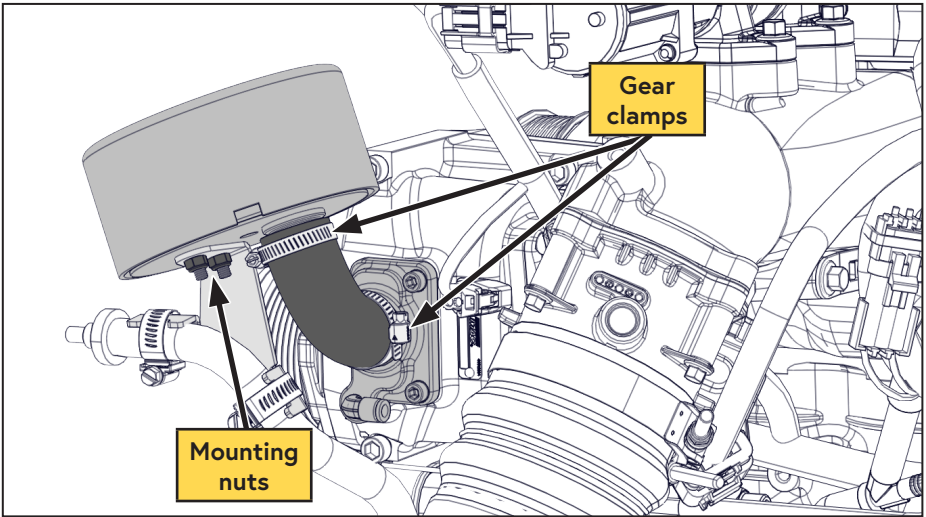

Figure 20 — Install air filter
- Install the intake hose onto the compressor inlet and the spigot on the bottom of the air filter housing. Mount the air filter assembly to the bracket with the 2 nuts and secure the hose with the supplied gear clamps (Figure 20).